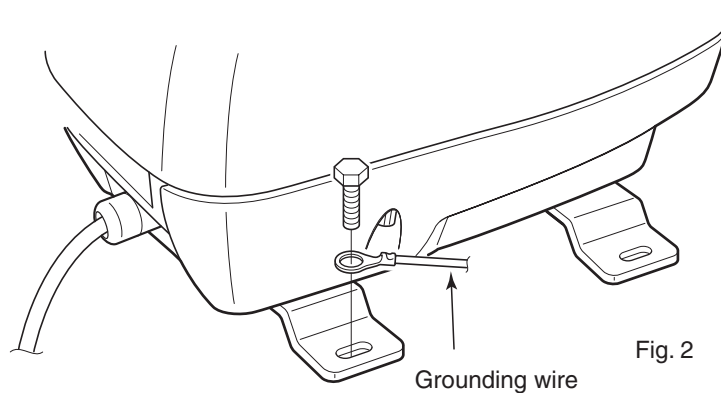

Fig. 2
- ② Apply the lubricant specified below, or an equivalent one, to the motor bearing, if required.
- ③ Connect a grounding wire (purchase locally) to the ground plate with the supplied terminal if required. (Fig. 2)